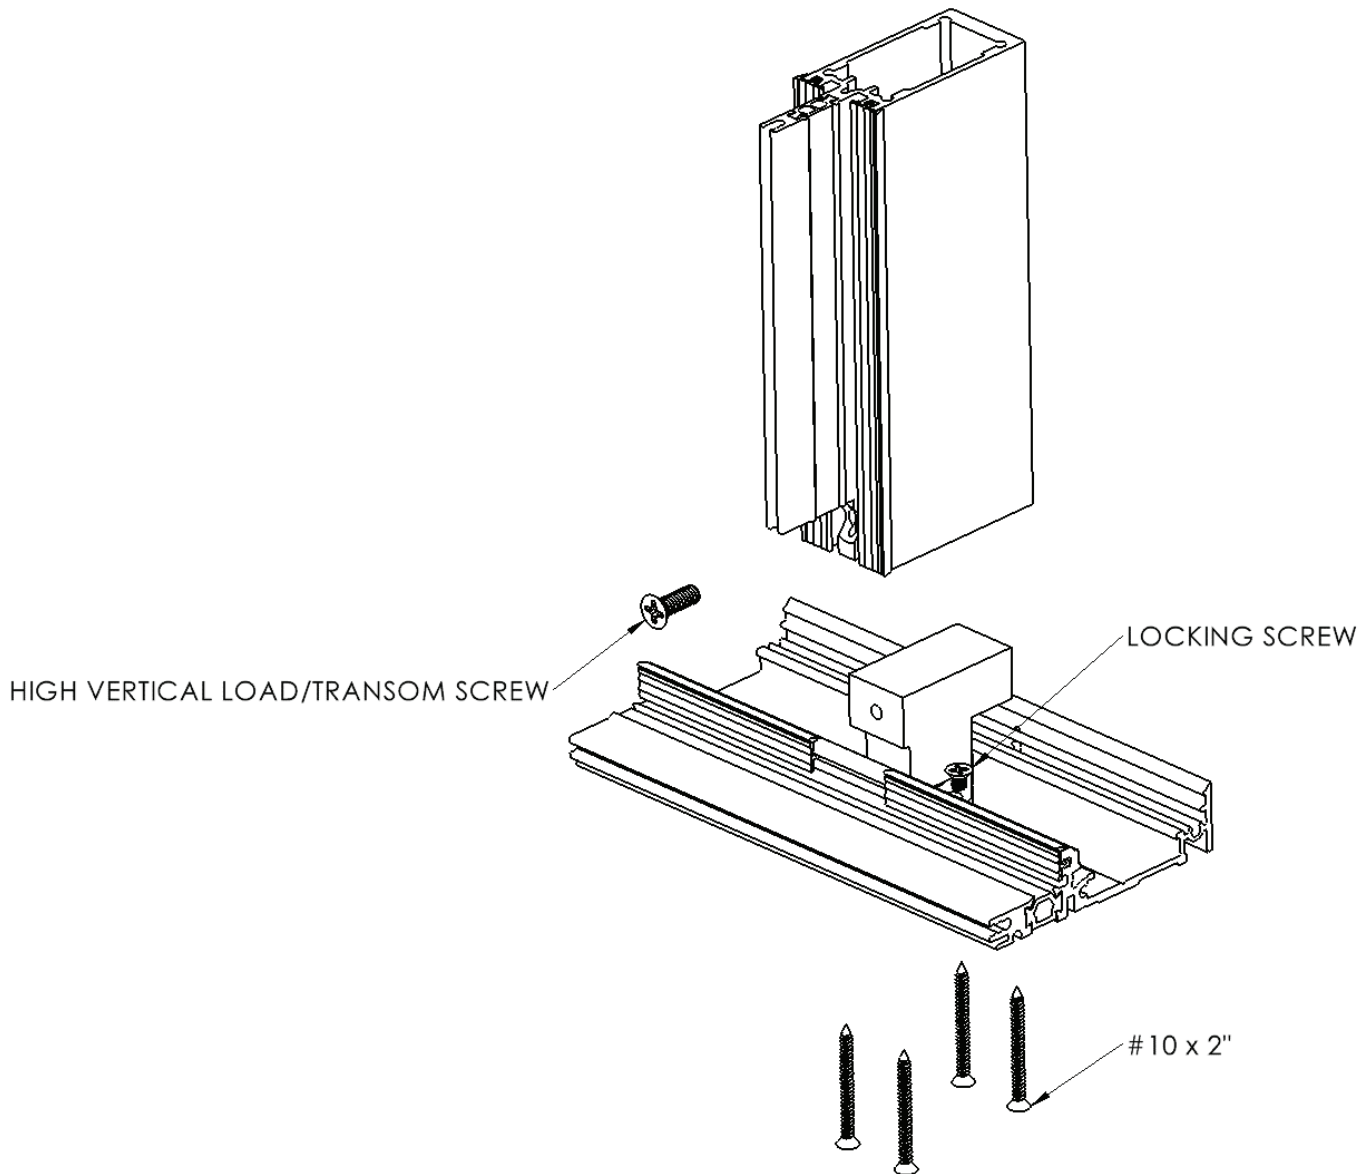

Figure 13
5. Slip the Vertical T-bars over each wind load bracket, and secure in location using (4) #10x2" screws through the pre-drilled holes. Repeat this process for the head. For applications where a large vertical load will be required, such as transom over a patio door, the high vertical load screw must also be used to prevent sag or separation of the perimeter frame and T-bar. See figure 13.